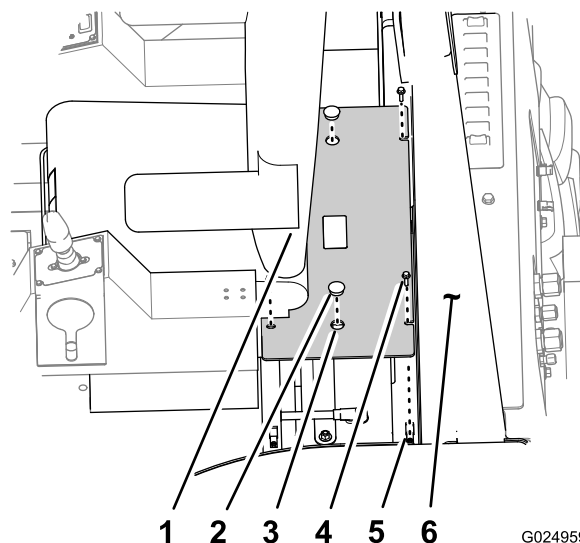

Figure 1
2. Remove the 2 finger-pull covers from the holes in the battery cover (Figure 1).
3. Remove the 4 flange-head bolts (5/16 x 1 inch) that secure the battery cover to the ROPS platform (Figure 1).
4. Using the finger pulls, lift the battery cover up to remove it from the ROPS platform (Figure 1).